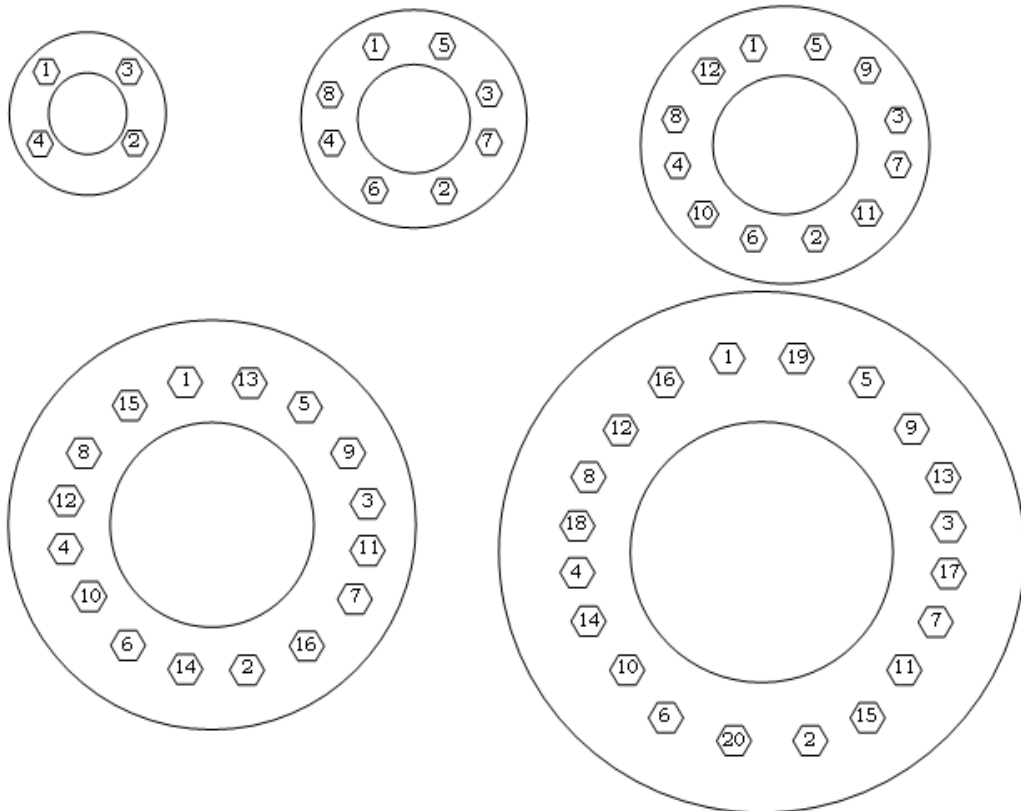

FIGURE 4. FLANGE BOLT TIGHTENING SEQUENCE
7. Slowly move the valve to the "full open" position and back to the closed position ensuring that the disc moves freely without any obstruction. If no obstruction is encountered, return the valve to the full open position and hand tighten all flange bolts using the bolt tightening sequence shown in Figure 4.